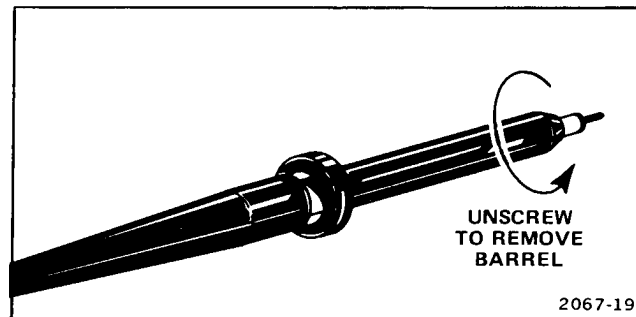

Figure 4-7. Probe barrel removal.
- a. Remove the probe barrel from the probe (see Figure 4-7).